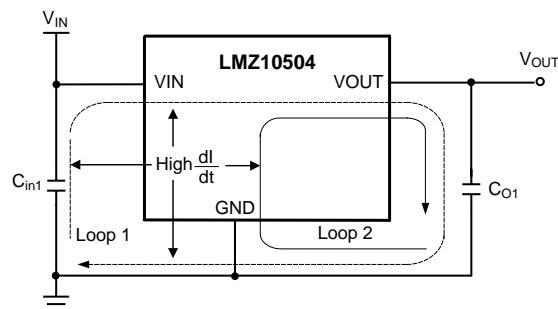

Figure 29. Critical Current Loops to Minimize
From an EMI reduction standpoint, it is imperative to minimize the high di/dt current paths. The high current that does not overlap contains high di/dt , see Figure 29. Therefore physically place input capacitor (C_{int}) as close as possible to the LMZ10504 VIN pin and GND exposed pad to avoid observable high-frequency noise on the output pin. This will minimize the high di/dt area and reduce radiated EMI. Additionally, grounding for both the input and output capacitor should consist of a localized top side plane that connects to the GND exposed pad (EP).